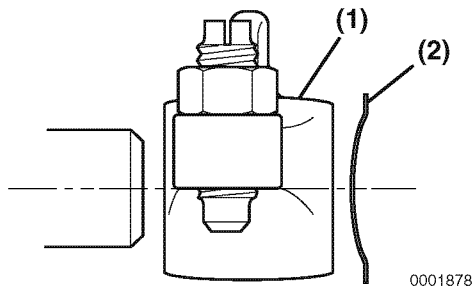

Figure 6-73
The wave washers (**Figure 6-73, (2)**) must be installed with the bow facing the rocker arms (**Figure 6-73, (1)**).